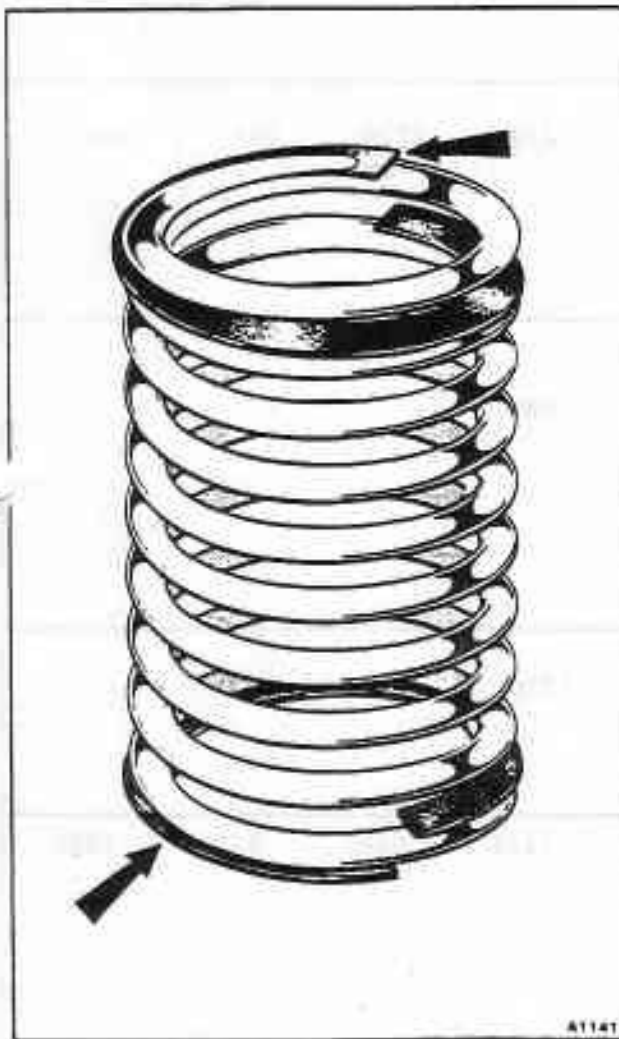

Fig. H9-2 Flexible strip location (if fitted)
9. Position the compressed spring into the compression tool with the upper spring support in the adapter block (see fig. H9-2).
14. Examine all the components for serviceability. On some cars a flexible strip is fitted between the first and second spring coils at both ends of the spring (see fig. H9-2).
1. Fit the spring and spring supports into the compression tool. The threaded support should rest in the baseplate adapter. If flexible strips are fitted these should be inserted at both ends of the spring between the first and second coils (see fig. H9-2).